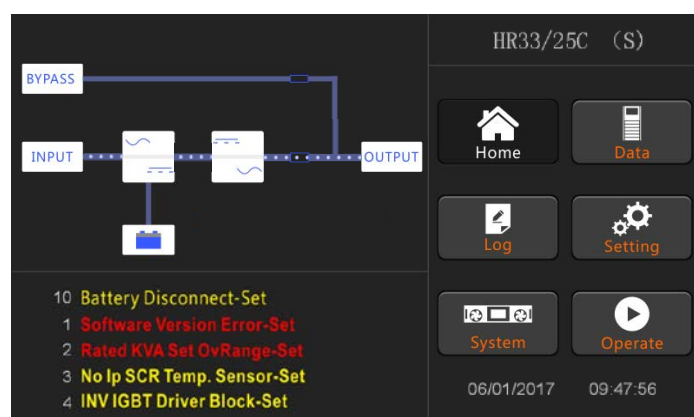

Fig.5-4 Interface of inverter mode
(3)After about 30S, when the inverter is running normally, the UPS switches from the bypass to the inverter, the bypass indicator bar is off, and the load indicator bar flashes. As shown in Figure 5-4.